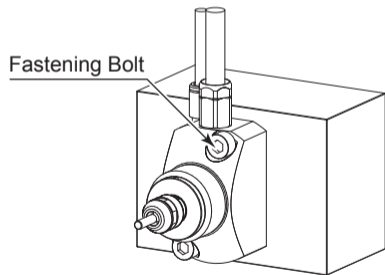

Fig. 41
- ① Insert the flange type motor spindle housing diameter area into the fixed base holder of the machine.
- ② Secure the motor spindle through the counter-sunk holes on the flange using bolts as shown in Fig. 10, Fig. 11, Fig. 12 and Fig. 13. Refer to table 4 and Fig. 41 (For BM-319F / BM-319FC / BM-320F / BM-322FR / BM-322FL / BM-322FS).